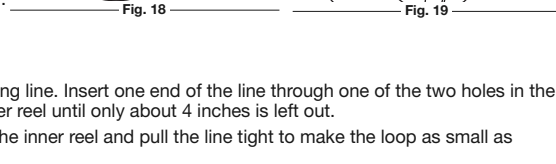

Fig. 16
- Wind the lines in tight even layers onto the reel (Fig. 16). Wind the line in the direction indicated on the inner reel. Place an index finger between the two lines to stop the lines from overlapping. Do not overlap the ends of the line. Proceed to step 12.